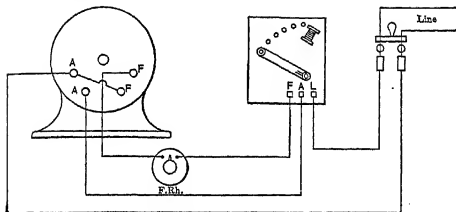

Fig. 244. Motor with rheostat and starting box.
**Prob. 49-9.** Is the shunt motor of Fig. 244 connected correctly? If not, make the necessary changes.
**Prob. 50-9.** Make the necessary changes in your diagram of connections for the motor of Fig. 244, to reverse the direction of rotation.